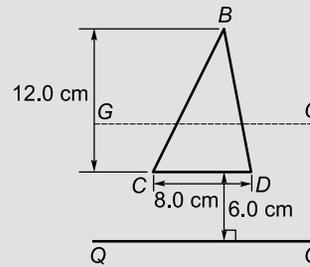

Figure 8.13
**Problem 8.** Determine the second moment of area and radius of gyration about axis  $QQ$  of the triangle  $BCD$  shown in Figure 8.13.